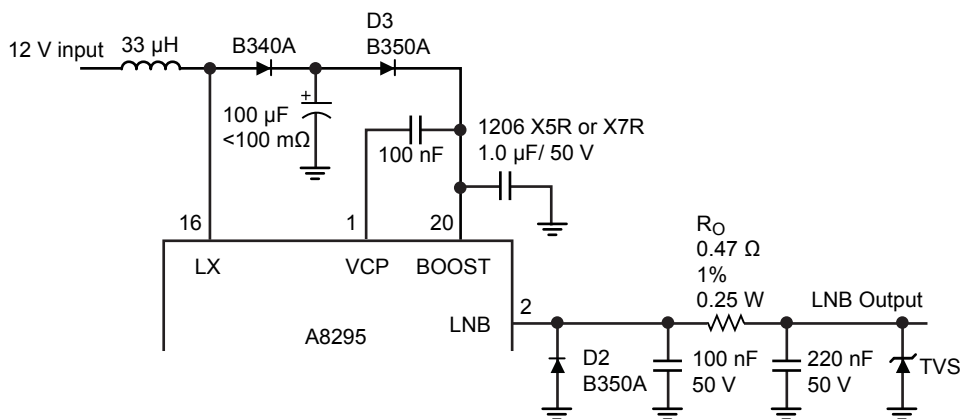

Figure 7. Application of surge protection upgrades
- For increased positive surge, the shunting diode from the LNB pin to the BOOST pin (D3, 1 A / 40 V) will no longer be able to protect the body diode of the output stage. This diode must be increased to a 3 A/50 V device and be relocated so that it is in series with the BOOST pin as shown in figure 7. In this position D3 will block surge current to the 100  $\mu\text{F}$  electrolytic capacitor, but the 1  $\mu\text{F}$  ceramic capacitor will still filter the high frequency switching noise.
- For increased negative surge, the relatively small clamping diode (D2) from LNB to ground will no longer be sufficient. This diode must be increased from a 1 A/40 V, SOD123 to a 3 A/50 V, SMA device. Also a 0.47  $\Omega$ /1%/0.25 W series resistor must be added as shown in figure 7. The 0.47  $\Omega$  resistor could be reduced if there is enough equivalent resistance in any series output components such as jumpers, inductors, or PCB traces. Every application will have its own surge requirements and the surge solution can be changed. However, Allegro strongly recommends incorporating a form of surge protection to prevent any pin of the A8295 from exceeding its Absolute Maximum voltage ratings shown in this datasheet.